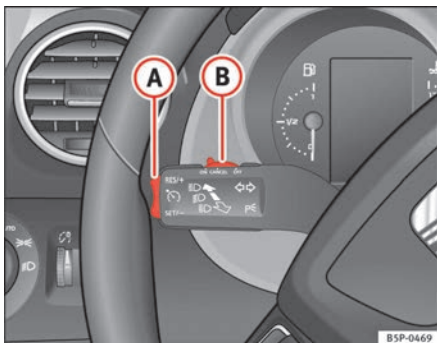

Fig. 129 Indicator and main beam headlight lever: switch and rocker switch for the cruise control
- Push the switch ⇒ fig. 129 **B** to the left to **ON**.